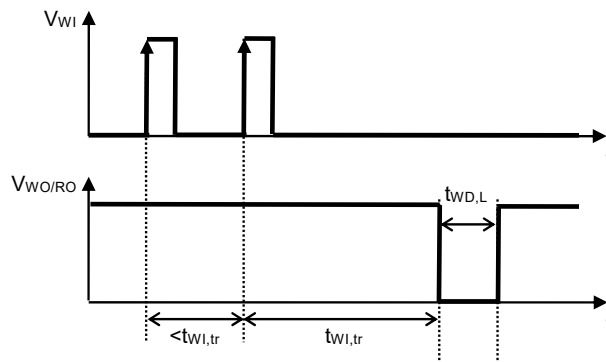

Figure 9 Watchdog Trigger Time
*1. The time when the WO / RO pin continues "L" after the watchdog timer detects a time-out (Refer to **Figure 9**). This value changes according to C_{DLY} .
*2. The time from when the watchdog timer initiates the detection of a trigger signal to when a time-out is detected and the WO / RO pin output changes to "L" (Refer to **Figure 9**). This value changes according to C_{DLY} .